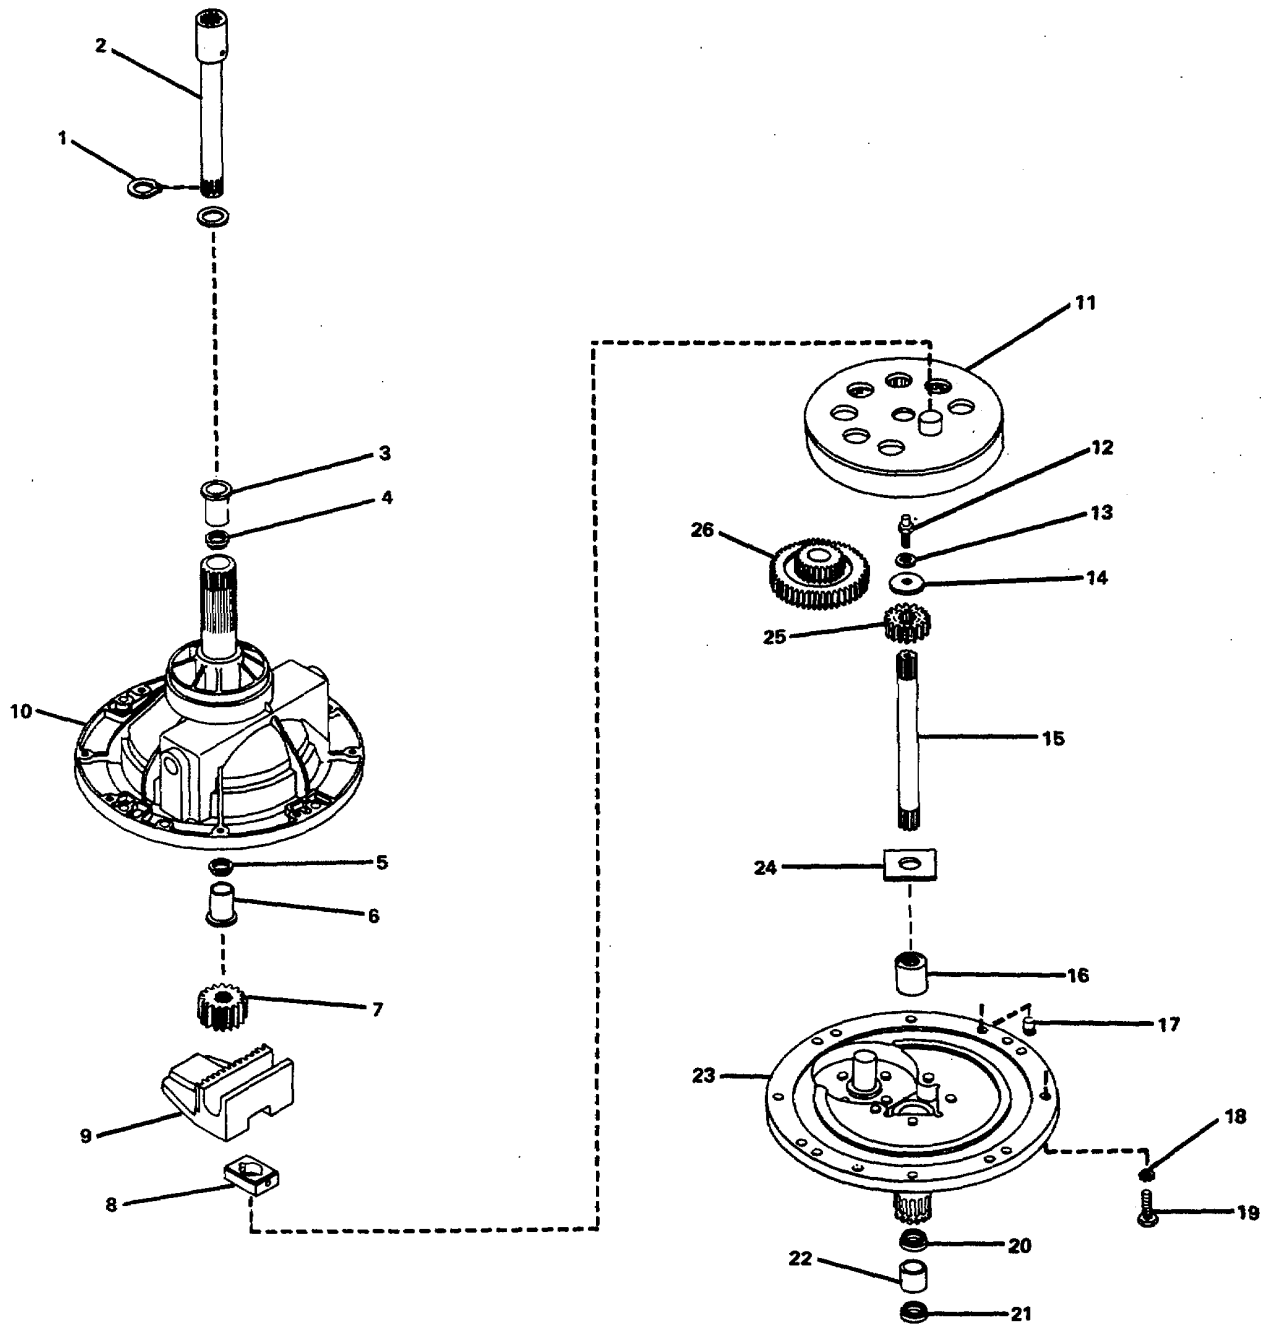

FIGURE 3-89. *Washer Machine Mechanical Transmission.*
**3-99. Repair Washer Machine Mechanical Transmission. (Figure 3-89)**